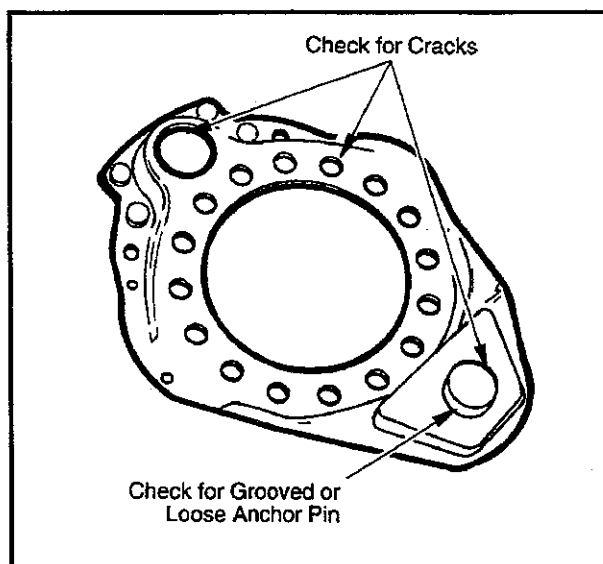

Figure 38—Inspect for Cracks
1. Inspect visually for cracks around mounting bolt holes, in cam area and around anchor pin. (See Figure 38—Inspect for Cracks.)